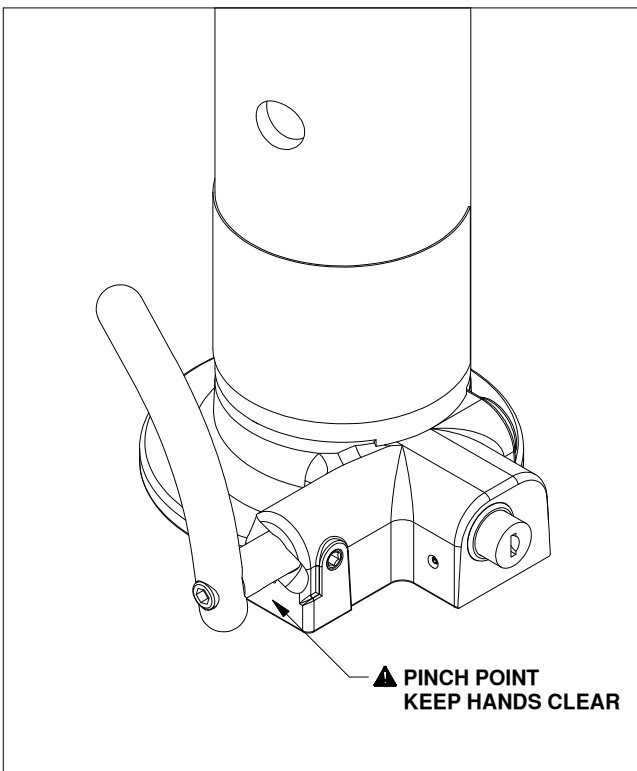
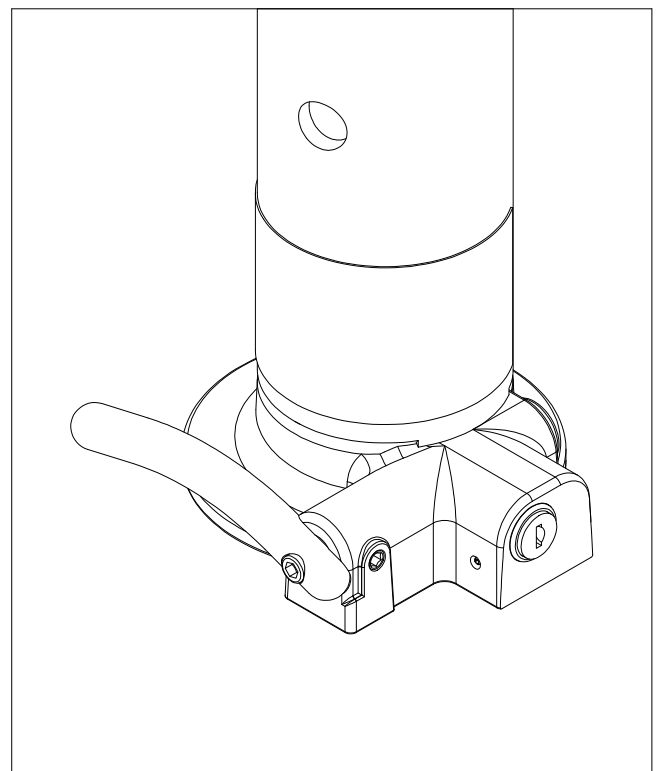

Figure B1, Coupler open position.
Figure B2, Coupler closed & locked position.
1. **Unlock coupler.** The coupler is locked when the face of the lock assembly is even with body of the coupler, see figure B2. To unlock, insert key and rotate 1/4 turn. When disengaged, the lock assembly will "pop" out so that the face of the lock assembly sticks out from the body of the coupler by about 1/2", see figure B1.
2. **Set coupler position.** Set the coupler to the "open" position. To do this, pull the handle straight out from the coupler about 1", rotate the handle clockwise until it stops, then release. The handle should stay in this near vertical position with about 1" between it and the coupler. See figure B1.
4. **Lower the trailer.** Slowly lower the trailer onto the ball. When the ball is fully engaged in the coupler, the handle will automatically rotate counter clockwise and retract firmly against the coupler housing. This is referred to as the "closed" position. See figure B2.
- 2. Set the coupler position.** Set the coupler to the "open" position. To do this, pull the handle straight out from the coupler about 1", rotate the handle clockwise until it stops, then release. The handle should stay in this near vertical position, with about 1" between it and the coupler. See figure B1.